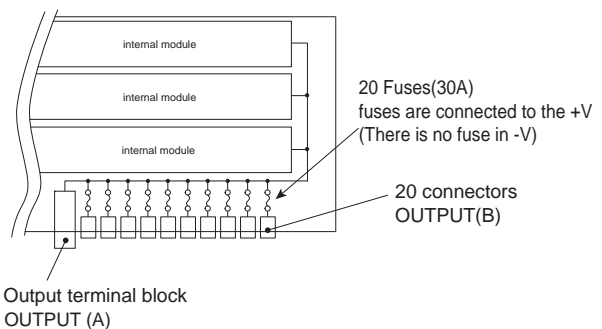

Fig.2.2 Output part block diagram
- OUTPUT(A) and OUTPUT(B), both are able to draw output current up to 208 amps in total.
- Fuses are built-in, and connected to each connector as shown in Fig.2.2.
- OUTPUT(B) has 20 amps drawing capability per each connector.